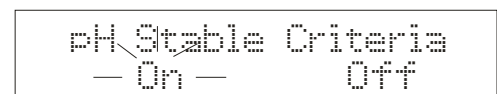

Figure 95
4. Press  $>/CAL$  key to toggle between pH Stable Criteria: *On* and *Off*. The selection will flash. See **Figure 95**.